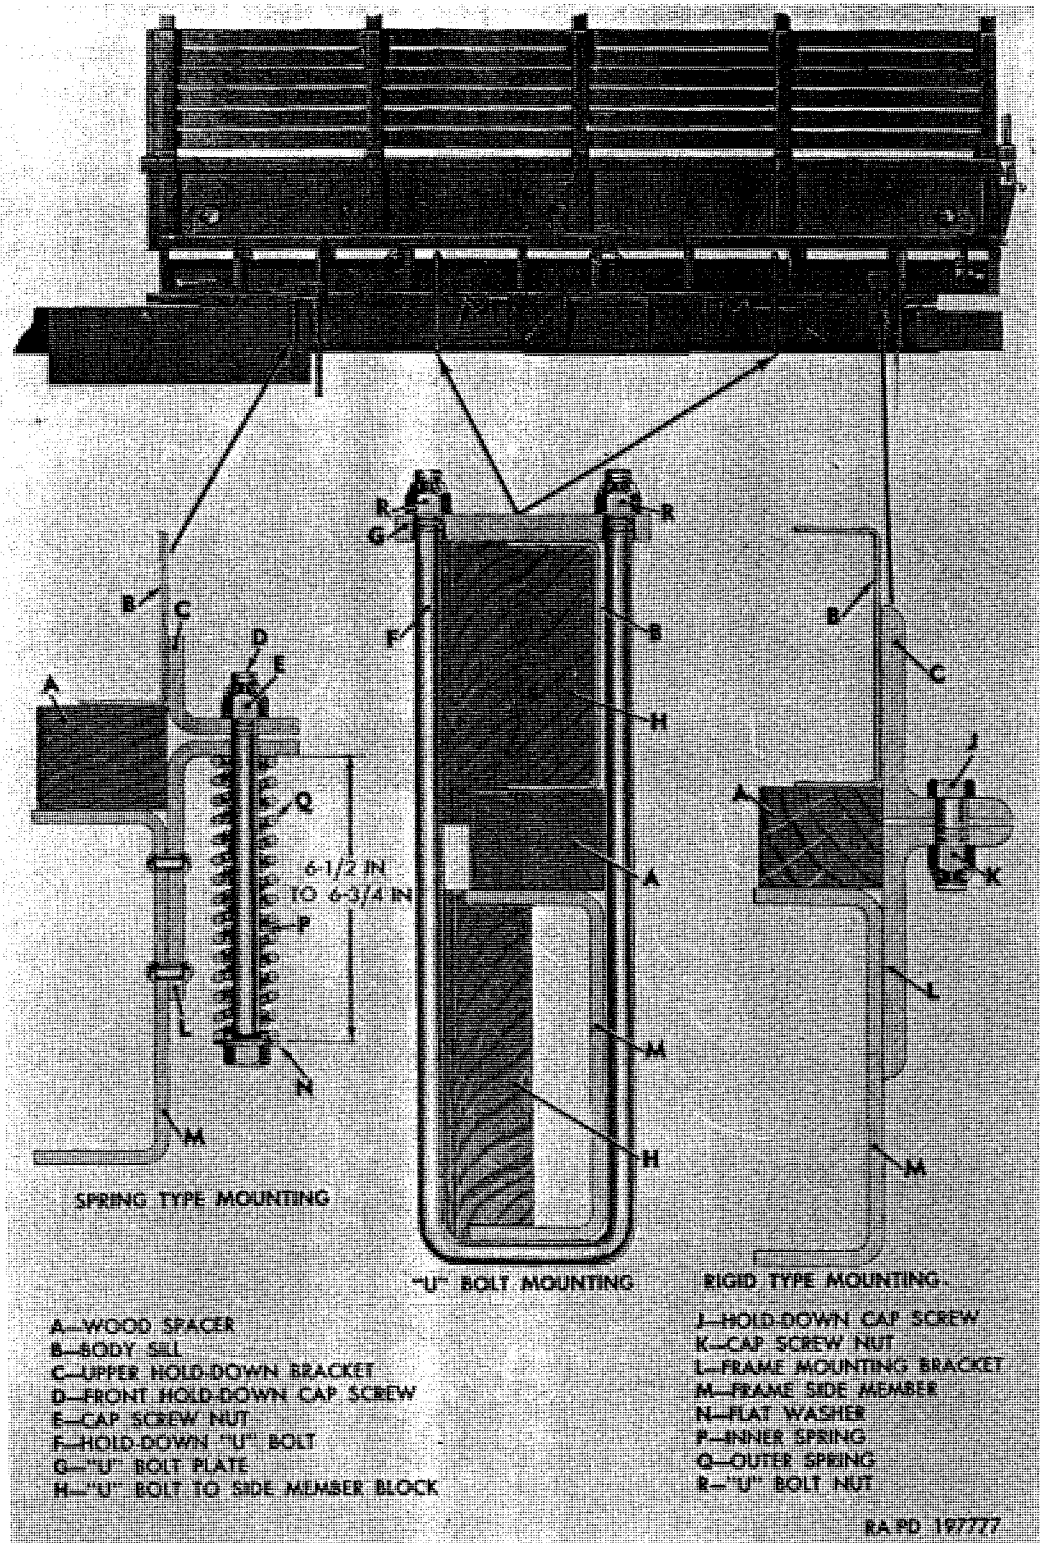

Figure 335. M211 cargo body mounting.
b. *M211 Cargo Body* (fig. 335). Body is mounted to frame side member. Dual spring-type mounting is used at each front corner of body. One rigid-type mounting is used on each side of body. Body is also secured to frame by two **U** bolts at each side.
- (a) On spring-type mounting, remove cap screw nut (E); then remove front holddown cap screw (D), inner and outer springs (P and Q), and flat washer (N).
- (b) On rigid-type mounting, remove cap screw nut (K) and holddown cap screw (J).
- (c) On U-bolt mountings, remove U-bolt nuts (R); then remove holddown U-bolts (F), blocks (H), and plate (G).
- (a) On spring-type mountings, position flat washer (N), inner spring (P), and outer spring (Q) on $\frac{5}{8}$ -18 x 9 front holddown cap screw (D). Position cap screw with springs through frame mounting and upper holddown brackets (L and C). Install cap screw nut (E) and draw down until overall length of springs is $6\frac{1}{2}$ to $6\frac{3}{4}$ inches.
- (b) On rigid-type mountings, position $\frac{3}{4}$ -16 x $2\frac{1}{4}$ holddown cap screws through frame mounting and upper holddown brackets (C and L). Install cap screw nuts (K) and tighten to 100 to 120 pound-feet torque.
- (c) On U-bolt mountings, position holddown U-bolt (F), U-bolt to side member blocks (H), and U-bolt plate (G) as shown in figure 335. U-bolt plate (G) must be placed with large diameter of the tapered hole against body sill (B). Install U-bolt nuts (R) and tighten to 90 to 100 pound-feet torque.